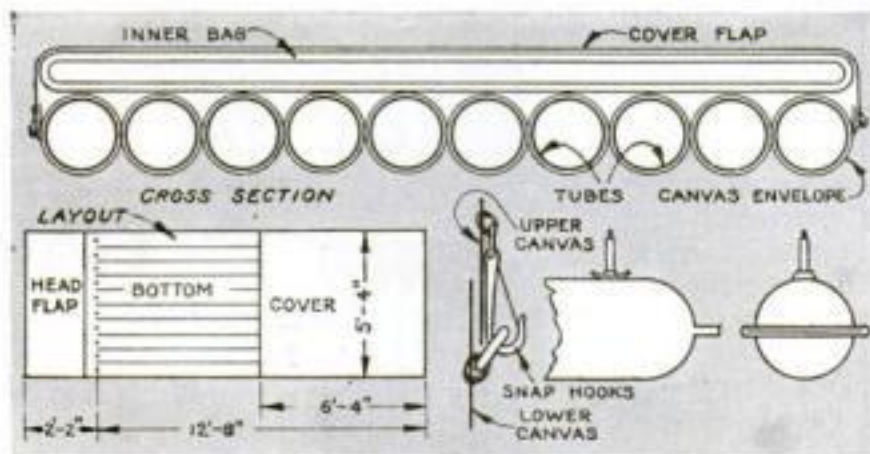

Fig. 4. A cross section of the bed, plan for laying out the canvas, method of fastening the sides, and how the lengths of inner tube are prepared.
If the main canvas is first marked as in Fig. 4, it will facilitate the sewing and assembling, whether you do it yourself or have it done by an awning maker. At each end of the 22-oz. canvas a 1-in. hem is made to prevent raveling. The selvedge will not need a hem. At right angles to the selvedge, lay off two lines, one 6 ft. 4 in. from one end, the other 12 ft. 8 in. from the same end. This will divide the piece into three parts; the cover flap, the bottom of the bag, and the head flap
**S**NAP hooks (or patent fasteners) are sewed along the sides in such a way that the upper flap covers the lower one, making the joint rain-proof. These fasteners are placed on each side of the bed in the manner shown in Fig. 4.
Now, roughen the inside of each tube back about 1 in. from the ends. Apply a thin coat of rubber cement and allow to dry overnight. Put on two more coats, allowing each to dry in the same way. Thoroughness at this point means the success of the project. After the third coat has dried, press the sides together to make a flat seam at right angles to the valve stem (see Fig. 4). Work the joint thoroughly, paying particular attention to the ends of the seam where the wall of the tube returns upon itself. The joint should then be put into a clamp until it has had ample time to set.